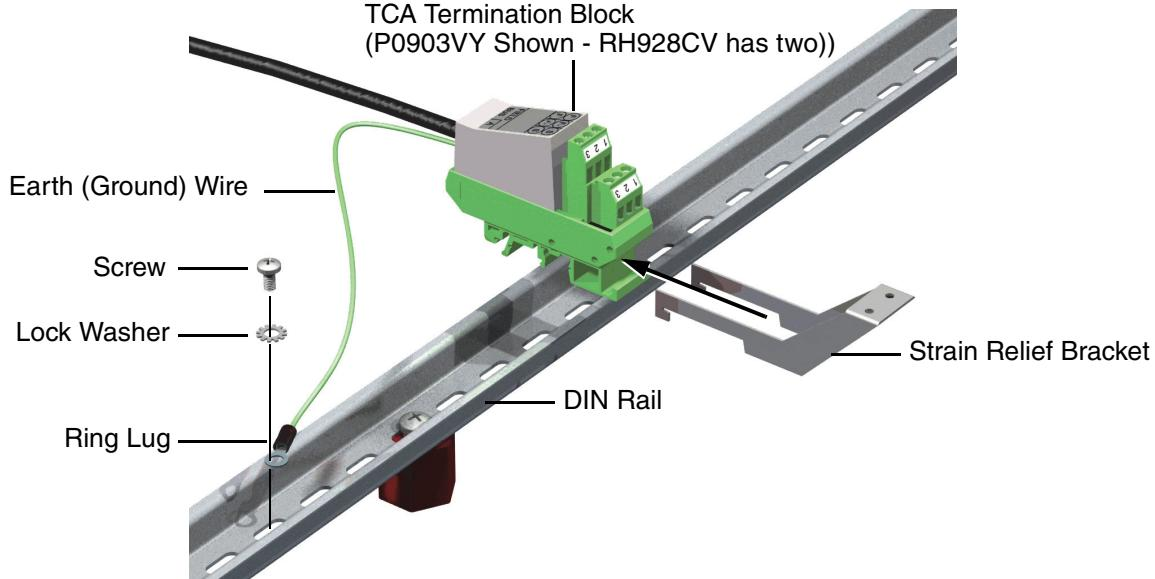

Figure 2-24. TCA Termination Block Assembly Mounting
1. Referring to Figure 2-24 on page 38, assemble the termination blocks on the termination cable assembly end of the RH928CV splitter (RH928CV). Snap them onto the mounting rails (DIN rails) in the enclosure, and connect the ground wires. (For future reference, Figure 2-25 illustrates how to remove the TCA termination blocks.)